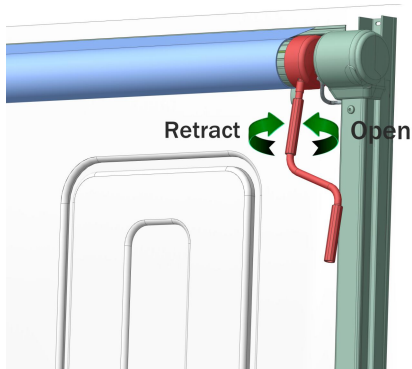

Figure D24
6.1 The B2E sunshade supports manual power-off. In case of power outage or malfunction, the manual crank can be inserted into the manual hole on the side cover of the scroll motor, and the crank can be rotated to retract or release the sunshade. (Figure D24)